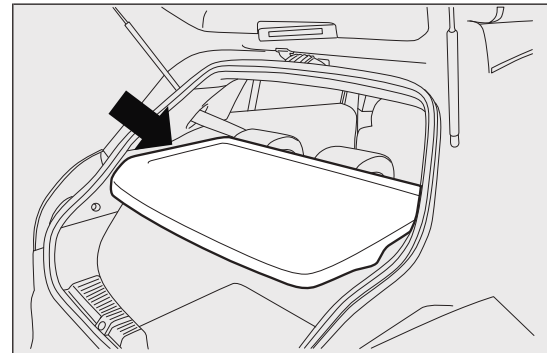
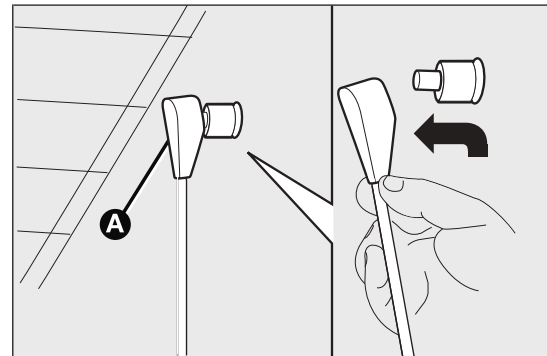

fig. 78
fig. 79
- ❑ remove the rear parcel shelf fig. 78 and release the upper ends of links A fig. 79 by removing the eyelets from the pins and pushing them in the direction indicated by the arrow;